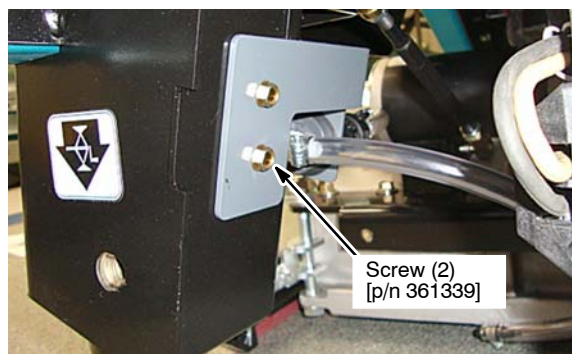

Fig. 43
2. Using two screws [p/n 361339], attach the hose assembly bracket to machine frame as shown (Figure 43). *NOTE: Screws are self-tapping.*